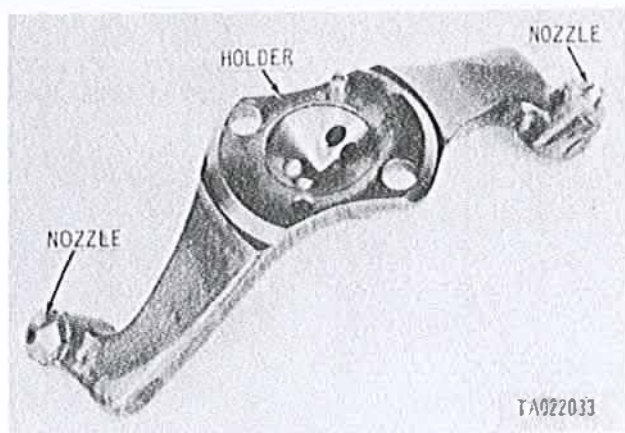

Figure 3-291. Piston oiler nozzle and holder assembly.
*a. Disassembly.* Do not remove nozzles (fig. 3-291) unless the nozzle or holder cannot be cleaned without disassembly. To remove nozzles, position holder in a soft-jawed vise and remove nozzles.
*c. Assembly.* Refer to figure 3-291 to install the nozzle in the holder if removed at disassembly. Stake nozzles on three flats, 120 degrees apart.